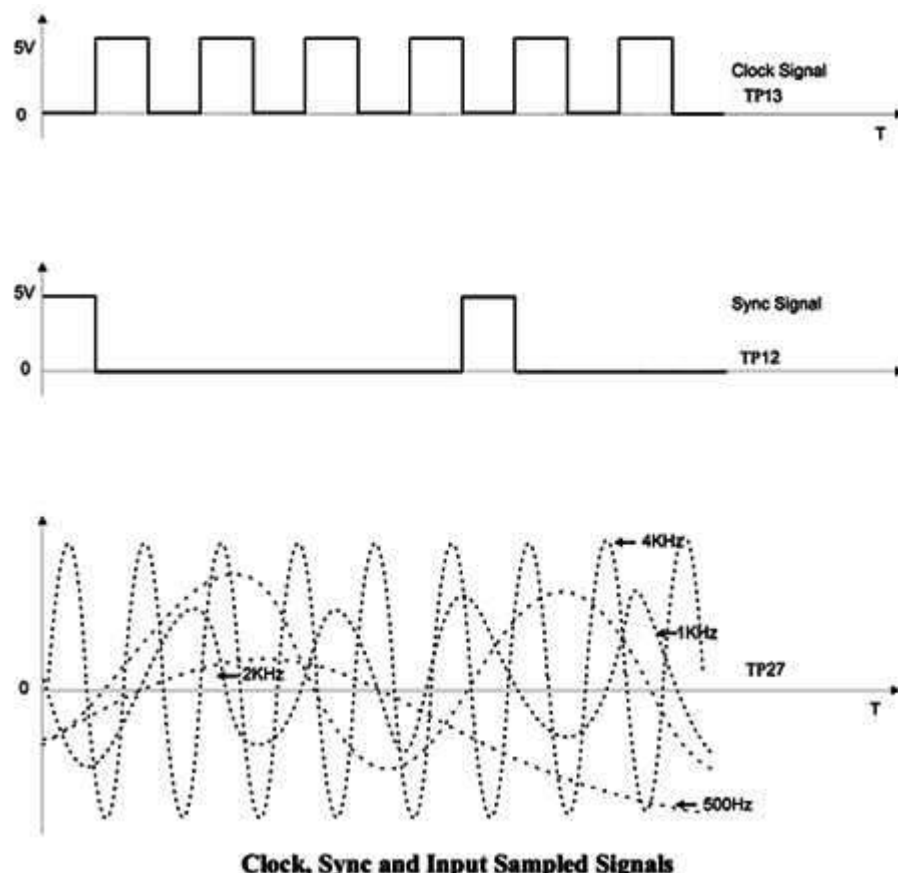

Fig. 6.3
1. The output waveform coming at Tx. O/P (TP27) is sampled input signal. The Transmitter Circuit samples all channels at different time intervals. The time division multiplexed samples appear at the Tx. O/P (TP27) as shown in the figure 6.3.
In TDM-PAM system signals send as samples, control signals decided when to take samples, Sync signal synchronizes transmitter and receiver. The waveform shown in the figure 6.3 is Time Division Multiplexed Pulse Amplitude Modulated signal.